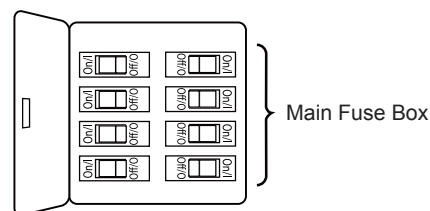
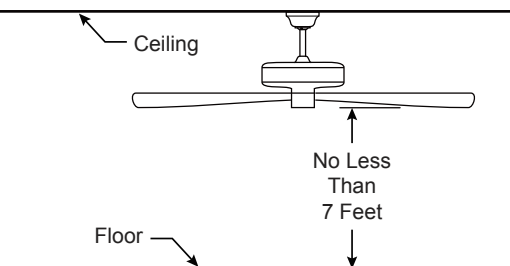
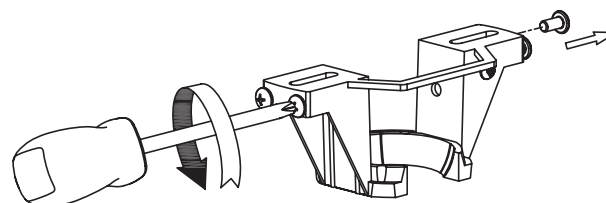

Figure 1
Figure 2
Figure 3
Your new ceiling fan will require a grounded electrical supply line of 120 volts AC, 60 HZ, 15 Amp Circuit. Electrical code requires use of a fan-rated outlet box to support the extra weight and motion associated with a ceiling fan. A fan-rated box will be labeled as such and typically supports up to a 70lb ceiling fan. Fan-Rated Outlet Boxes vary in ratings and design. Ensure the ratings of your ceiling fan outlet box meet the requirements for the ceiling fan being installed. Figure 1, Figure 2 and Figure 3 depicts different structural configurations that may be used for mounting the outlet box.
Low profile box (Figure 1)
Deep box (Figure 2)
Deep box with brace (Figure 3)
- ☐ 1. Remove and discard the five rubber motor stops from the motor assembly by removing the screws. (Figure 1)
- ☐ 2. Remove the hanger ball portion from the downrod/hanger ball assembly by loosening the set screw in the hanger ball until the ball falls freely down the downrod. Remove the pin from the downrod, then remove the hanger ball. Retain the pin and hanger ball for reinstallation in Step 7. (Figure 2)
- ☐ 3. Remove the hairpin clip and clevis pin from the bottom of the downrod. Retain the pin and clip for reinstallation in step 5. (Figure 3)
- ☐ 2. Alternating positions, remove three motor coupling screws from the motor assembly and retain the screws for Step 4. (Figure 2)
- ☐ 3. Route your fan wires through the canopy trim ring and ceiling canopy. (Figure 3)
To avoid possible fire or shock, be sure electricity is turned off at the main fuse box before hanging. (Figure 1)
The fan must be hung with at least 7' of clearance from floor to blades. (Figure 2)
1. Completely remove one screw from either side of the hanger bracket -- be sure it is the screw to your right when facing it -- and keep for reinstallation on page 14 or 15 (**How to Install Your Canopy Housing**). Loosen the other two screws that were not removed. (Figure 3)
To avoid possible electrical shock, be sure electricity is turned off at the main fuse box before wiring. (Figure 1)
- ☐ **1.** Slide the ceiling canopy over the mounting bracket with the two loosened screws going into the “L” slots in the canopy. Be sure all wiring is tucked into the ceiling canopy and is not pinched. Once the canopy is flush with your ceiling, turn clockwise to seat the screws into the keyed portion of the slot. Tighten the screws and install the remaining two screws removed in step 1 of page 10 (**How to Hang Your Ceiling Fan**) to secure the ceiling canopy to the hanger bracket. (Figure 1)
- ☐ **2.** Assemble the canopy screw cover, by twisting in a clockwise direction and up to the ceiling canopy. (Figure 2)
- ☐ **3.** Push the canopy trim ring up to conceal the screws, such that the mounting tabs seat into the dimpled grooves in the ceiling canopy midway between the screws. (Figure 3)
- ☐ 1. Lift the fan off the hanger bracket hook and mount your fan by sliding the ceiling canopy over the mounting bracket with the two loosened screws going into the “L” slots in the canopy. Be sure all wiring is tucked into the ceiling canopy and is not pinched. Once the canopy is flush with your ceiling, turn clockwise to seat the screws into the keyed portion of the slot. Tighten the screws. (Figure 1)
- ☐ 2. Install the remaining two screws removed in step 1 of page 10 (**How to Hang Your Ceiling Fan**) to secure the ceiling canopy to the hanger bracket. (Figure 2)
- ☐ 3. Push the canopy trim ring up to conceal the screws, such that the mounting tabs seat into the dimpled grooves in the ceiling canopy midway between the screws. (Figure 3)
1. Position the blade over the blade holder with threaded posts showing. Make sure the bottom edge of the blade is fully seated against the blade holder. With a phillips screwdriver, tighten 3/16"-24 serrated head screws with flat washers to secure the blade to the blade holder. (Figure 1)
2. Attach assembled blade holders to the motor hub using the provided screws with lock washers in the hardware bag. Make sure the screws securing the blade holders to the motor hub are tight and that the blade holders are properly seated. (Figure 2)
1. Remove the three screws from the switch cup assembly and retain screws for later. (Figure 1)
2. Securely attach the 9-pin switch cup connector to the wiring harness socket within the adapter assembly. (Figure 2)
3. Assemble the switch cup assembly onto the housing adapter with previously removed screws. (Figure 3)